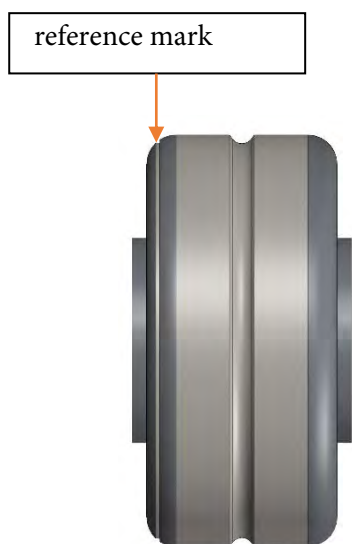

Figure 54
7. At this point it will be possible to mount the two contact wheels selected from the available models. Contact wheels have a lighter colored mark on one side. During assembly, make sure that the mark of each of the two wheels faces the drive wheel. Figures 54 and 55;